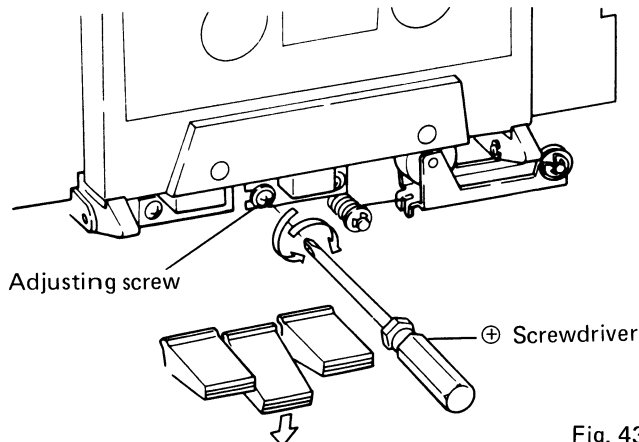

Fig. 43
3. Play the 10kHz, -20dB section of the STD-341 test tape, and turn the head angle adjustment screw (Fig. 43) to obtain maximum output from both left and right channels.